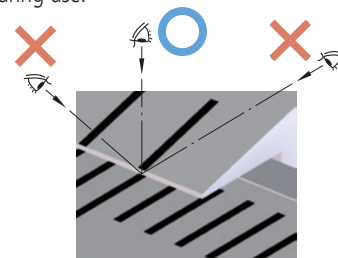

Fig. 6
2. Read the scale graduations from directly above to avoid parallax error. (Fig. 6)